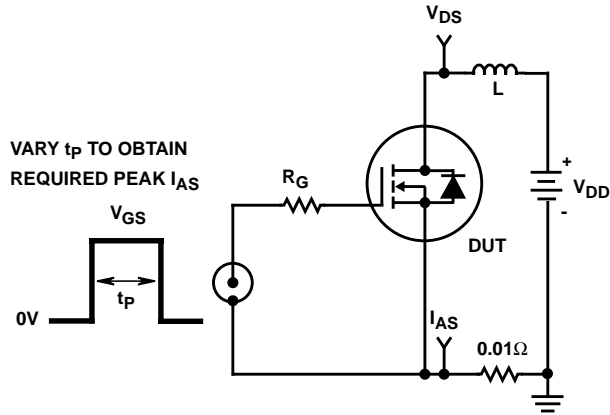

FIGURE 15. UNCLAMPED ENERGY TEST CIRCUIT
4. $V_{DD} = 10\text{V}$, starting $T_J = 25^\circ\text{C}$, $L = 6.18\text{mH}$, $R_G = 50\Omega$, peak $I_{AS} = 5\text{A}$. See Figures 15, 16.